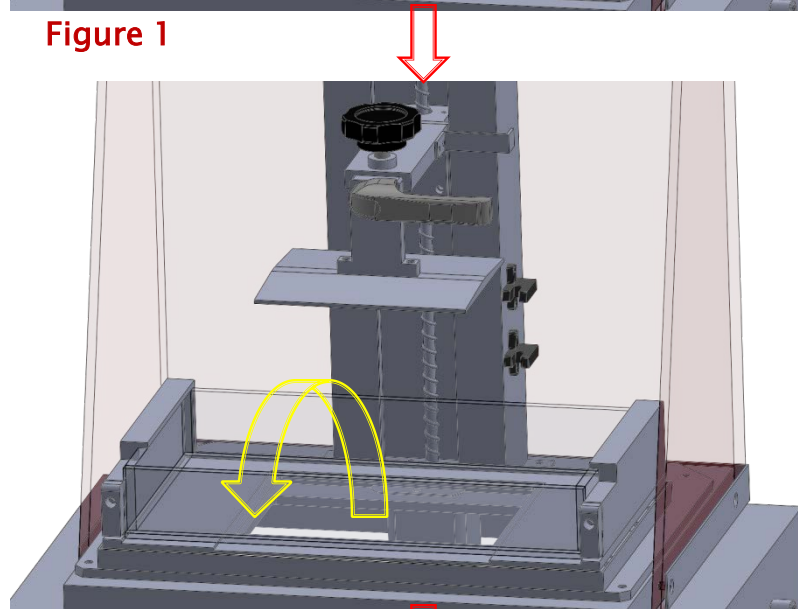

Figure 2
2. Remove the VAT in Figure 2.